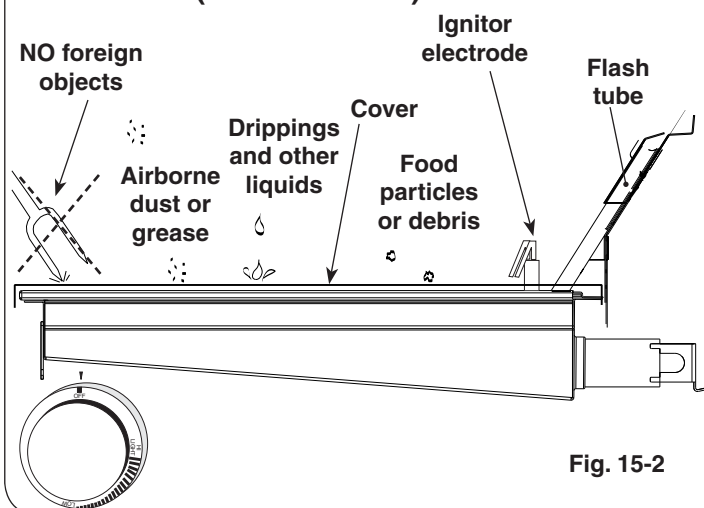

Fig. 15-2
- When not in use, **always** cover the infrared burner with the stainless-steel cover. This protects the burner from drippings (from other cooking), airborne particles, and foreign objects (Fig. 15-2).
- Do not strike or scratch the burner ceramic as it may chip, crack, or break (Fig. 15-2).